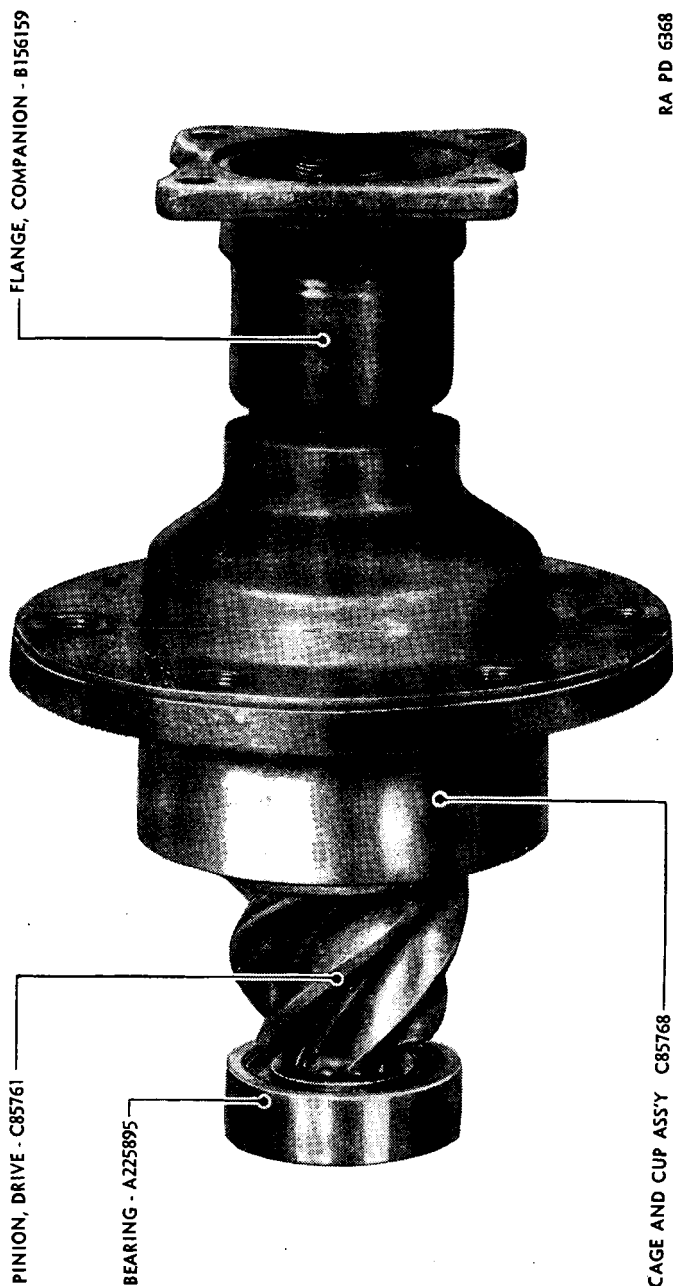

FIGURE 21.—Front axle drive pinion assembly.
(1) Disconnect propeller shaft— $\frac{5}{8}$ -inch box wrench, $\frac{9}{16}$ -inch open end wrench. Remove four $\frac{7}{16}$ -inch bolts (A214369), nuts (BBBX1D), and lock washers (BECX1L), and disconnect front propeller shaft at drive pinion companion flange.
(2) Remove pinion shaft assembly— $\frac{3}{4}$ -inch socket wrench. Remove $\frac{9}{16}$ -inch cap screws (A145900) and lock washers (BECX1N) holding pinion outer seal cover (C85763) and bearing cage to housing, and pull out pinion shaft assembly (fig. 21).
(3) Remove shaft nut—pliers or cotter pin puller, $1\frac{1}{2}$ -inch socket wrench. Pull out pinion shaft cotter pin (BFAX1DL) and unscrew nut (A214932).
(4) Remove companion flange—press. Press off front axle companion flange (B156159, fig. 21) and key (A167690), and remove outer bearing cage cork (A174608).
(5) Remove bearing nuts and washers— $1\frac{1}{4}$ -inch open end wrench. Take off drive pinion outer bearing nut lock (A225902), lock ring (A159568), adjusting nut (A225901), and adjusting nut washer (A225903).